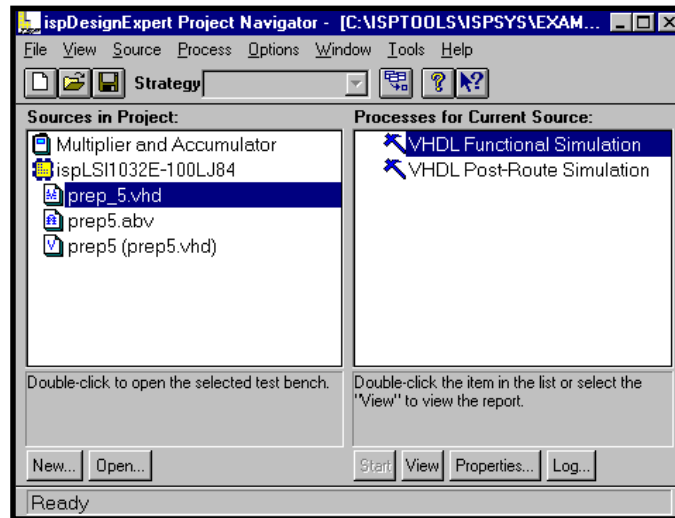

Figure 6-1. Simulate an HDL Design
2. Double-click VHDL/Verilog Functional Simulation or VHDL/Verilog Post-Route Simulation in the Processes window (Figure 6-1).